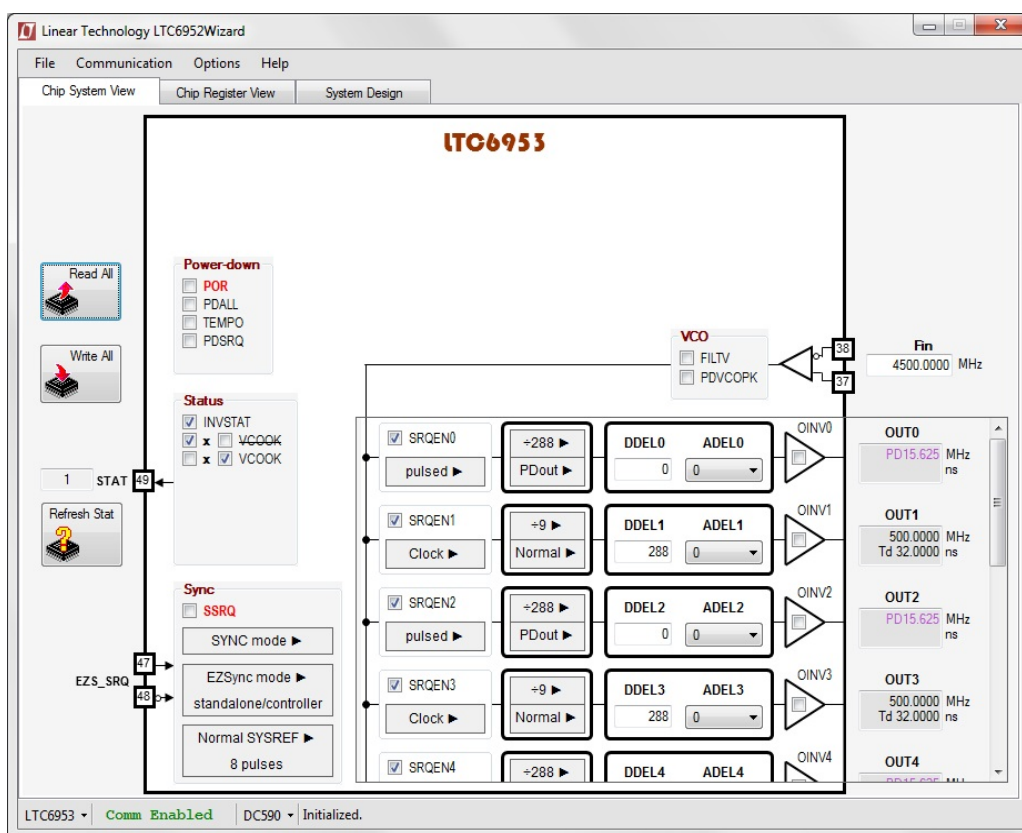

Figure 3. LTC6952Wizard Screenshot
2. In LTC6952Wizard's System tab click 'Read All'. LTC6952Wizard should match Figure 3. If not, see 'Verify DC2610A and LTC6952Wizard Communication'
To verify communication with the DC2610A. The bottom status line in LTC6952Wizard should read "LTC6953" and "Comm Enabled" as shown in Figure 3. If not, then perform the following steps: